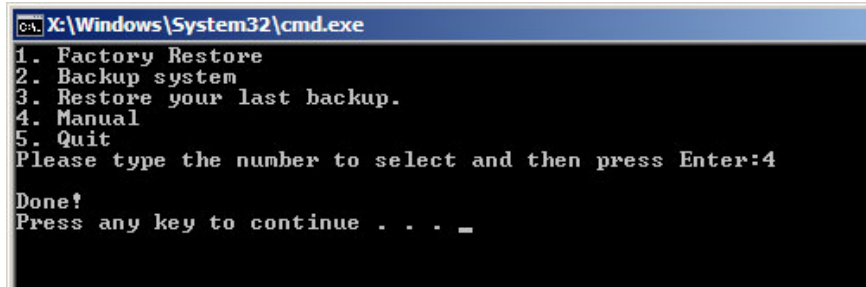

Figure B-18: Press Any Key to Continue
Step 11: When the image creation completes, a screen prompts as shown in **Figure B-18**.